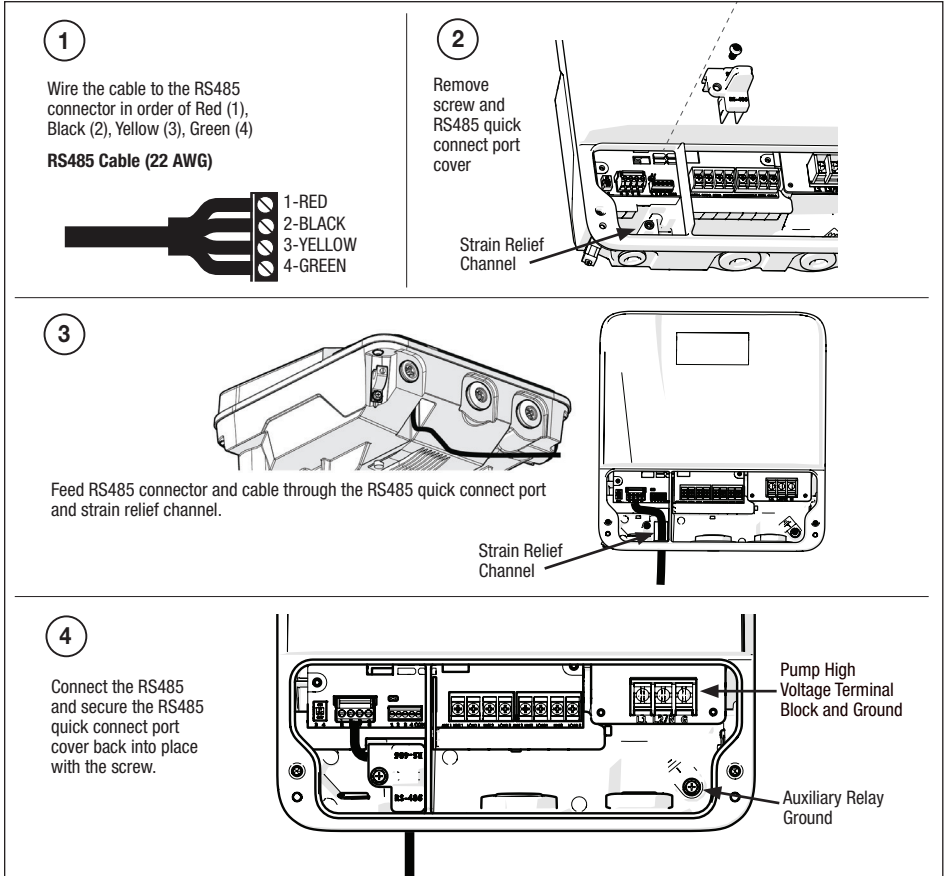
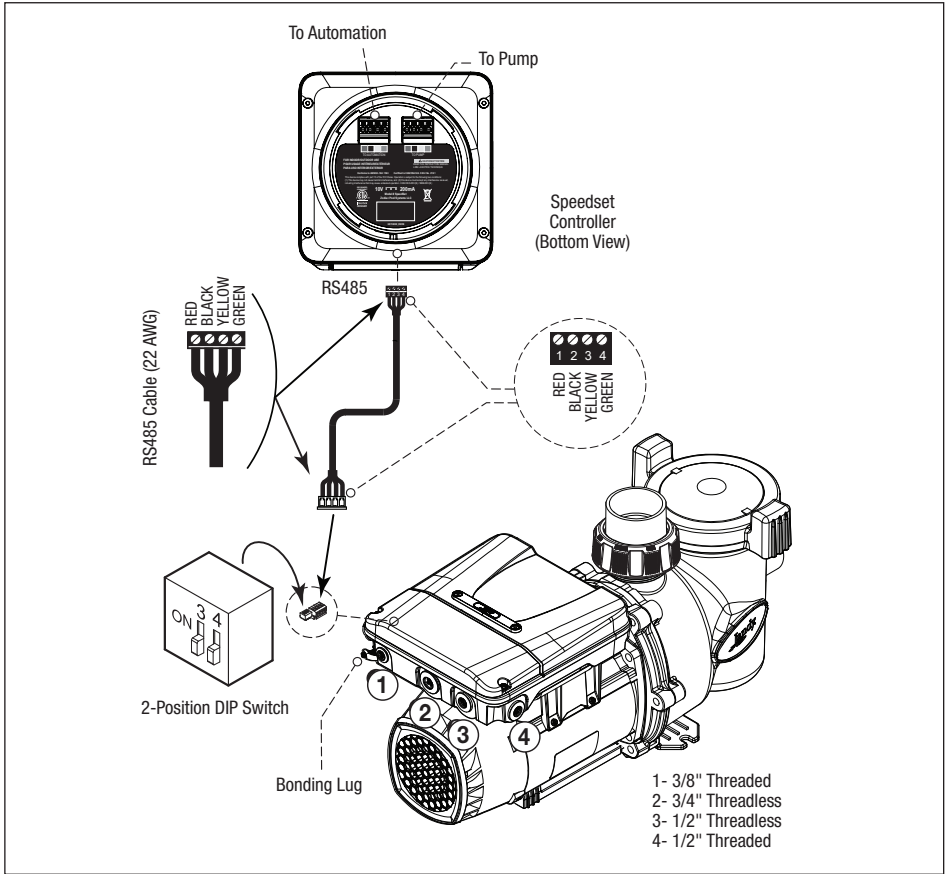

Figure 8. RS-485 Quick Connect Port with Wiring
Figure 9. Wiring to a Controller
In addition to being properly grounded as described in Section 3.3.3, *Electrical Wiring*, and in accordance with the requirements of the National Electrical Code (NEC), or in Canada the Canadian Electrical Code (CEC), the pump motor must be bonded to all metal parts of the swimming pool, spa or hot tub structure and to all electrical components and equipment associated with the pool/spa water circulation system. The bonding must be accomplished by using a solid copper conductor, No. 8 AWG or larger. In Canada No. 6 AWG or larger must be used. Bond the motor using the external bonding lug provided on the motor frame. See Figure 9.
- RS-485 quick connect port (see Figure 8)
The high voltage compartment provides 3 conduit port openings (see Figure 9):
1. Ground the pump using the green ground screw provided on the high-voltage terminal block. Do NOT ground or daisy chain the ground wire to the secondary green ground screw or daisy chain to on the wiring compartment chassis (see Figures 8 and 12). Also do not ground to a gas supply line.
NOTE: When power alone is supplied to this pump, it will not operate. It requires a digital command sent to it by either a variable speed controller (SpeedSet, JEP-R, or iQPUMP01), an automation system, or use of the dry contacts (See *Figure 8* and *Figure 9* for RS485 wiring illustrations for a local controller or automations system. See *Figure 12* and *Figure 13* for dry contact wiring illustrations).
See Figures 8, 12 and 13 for compartment details and location of the auxiliary relays and wiring illustrations.